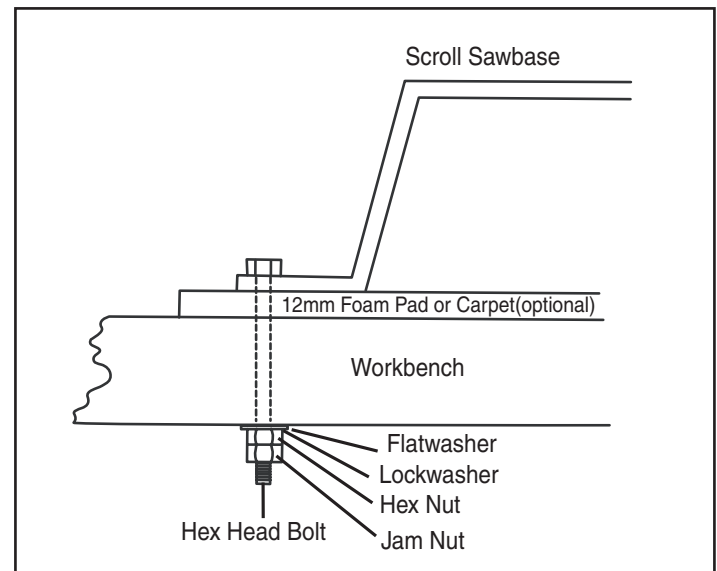

FIG. 3
- The necessary tools and small parts for assembling the saw on a workbench are not supplied with the saw. However, use hardware similar to the following list as shown in Figure 3: